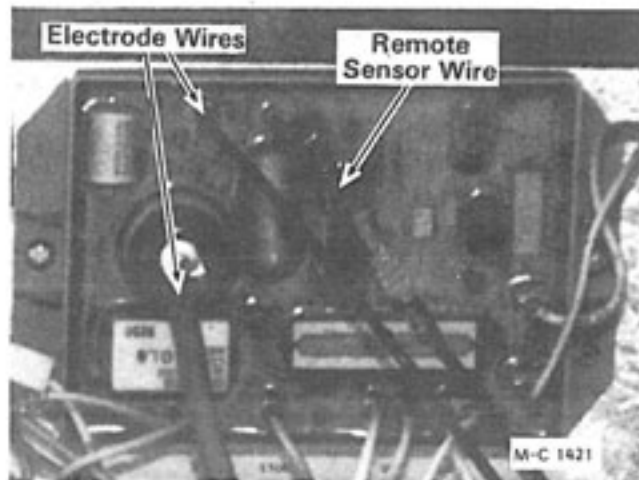

Figure 36
- A. Flip the ignition switch OFF. Remove the electrode wires from terminals E-1 and E-2 on the ignition board, see Figure 36 and 37.
5. Check to be sure that there is 115V power to the ignition board. Connect a voltmeter between terminal A (L1) and L2 on the ignition board, see Figure 36 and 37.